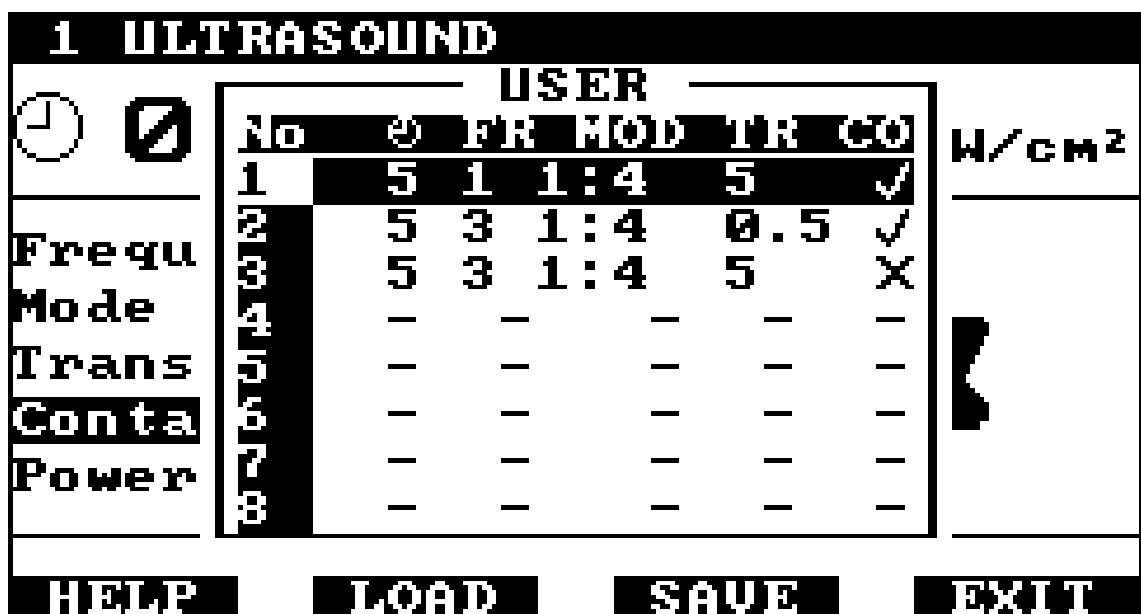

Figure 22 - User Program Display
25. **F2 - USER:** In order to save time setting up the Ultrasound Module, up to 16 individual set-ups can be saved as "User Defined Programs". To save the current set-up as a user defined program, press F2-USER from the main Set-Up display. The system will recall previously saved programs and display them as in figure 22.
Programs shown as dashes, for example, programs 4 to 8 in figure 22, have not been used and are blank.